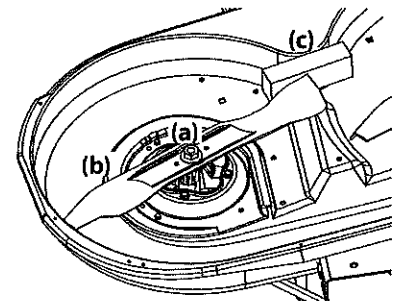

Figure 57
2. Use a 15/16" wrench to hold the hex nut on top of the spindle assembly when loosening the hex nut (a) securing the blade (b). A block of wood (c) may be placed between the deck housing and the cutting edge of the blade (b) to help in breaking loose the hex nut (a) securing the blade. See Figure 57.